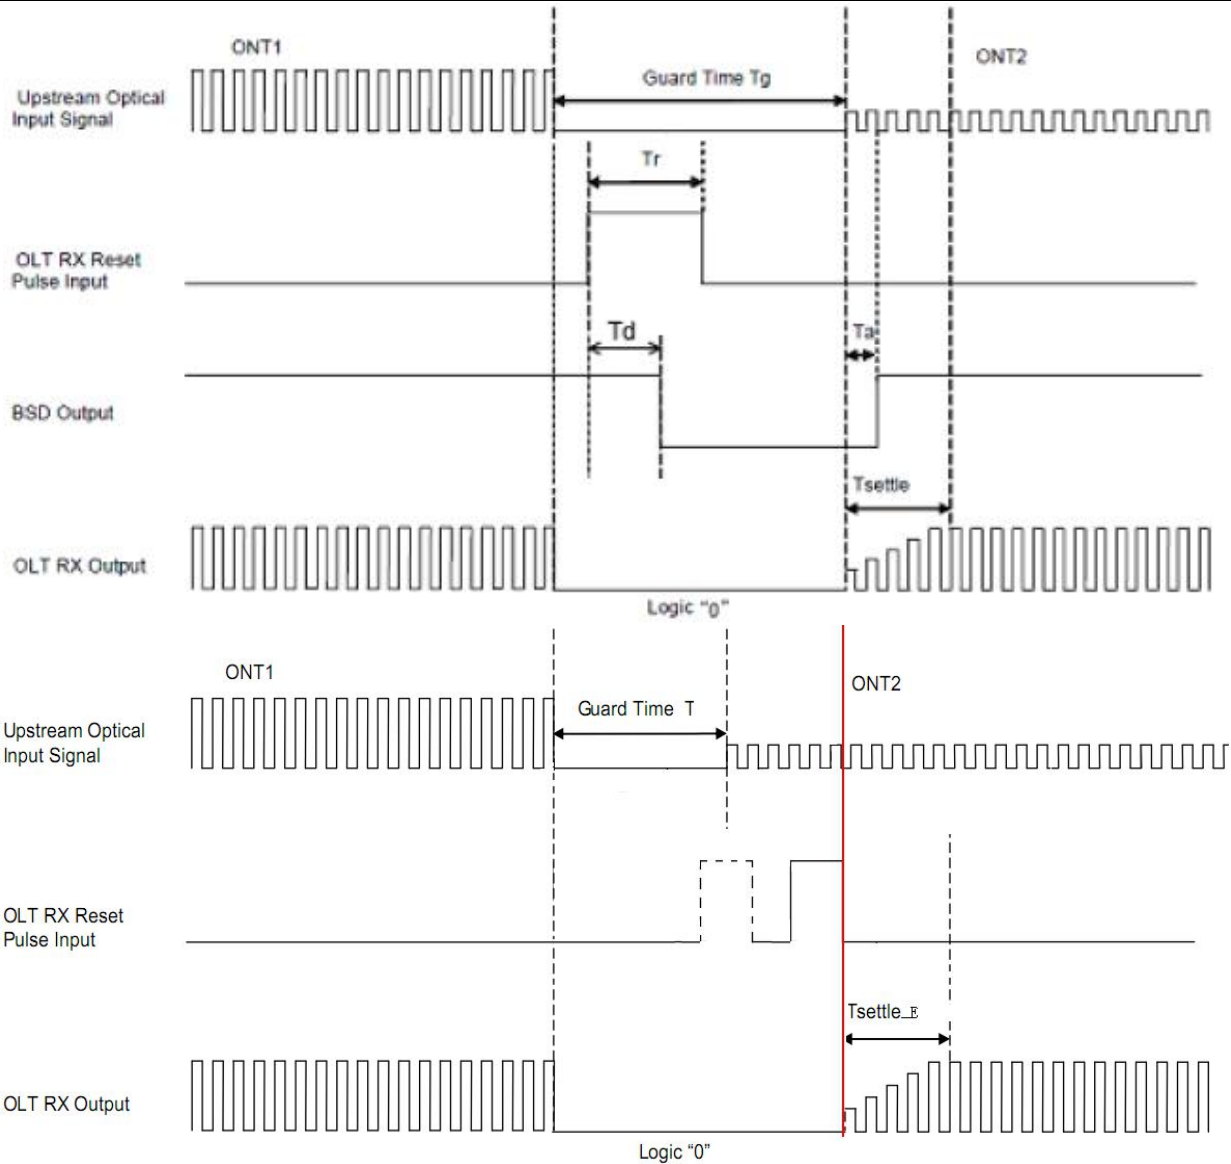

Figure 2 Burst Receiver Timing Sequence
(1) Reset Pulse support 2 modes in Figure2.
(2) SD signal pulls down immediately after Reset signal, and pulls up while detected RX burst signal till